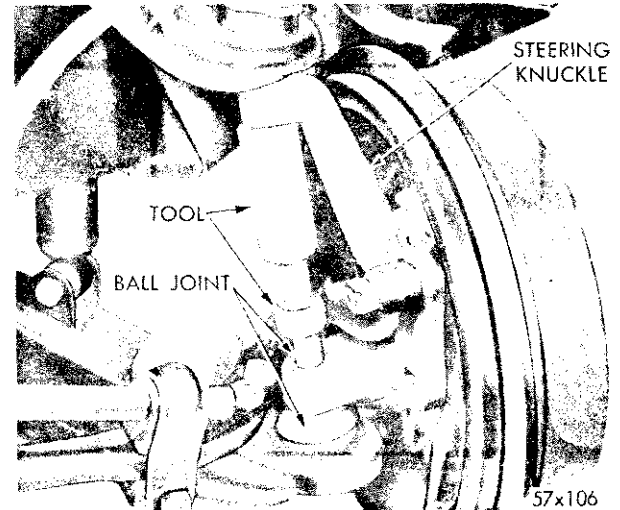
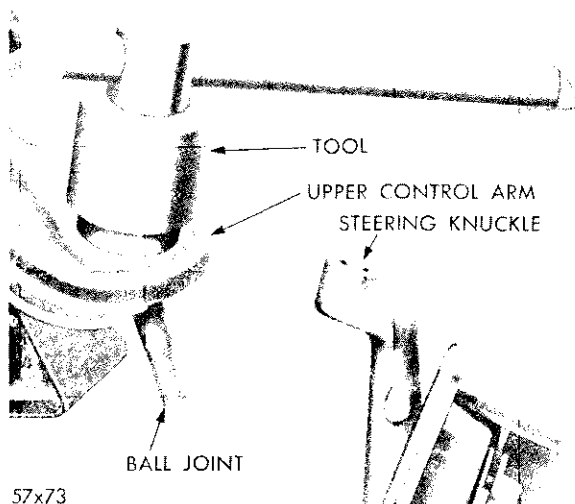
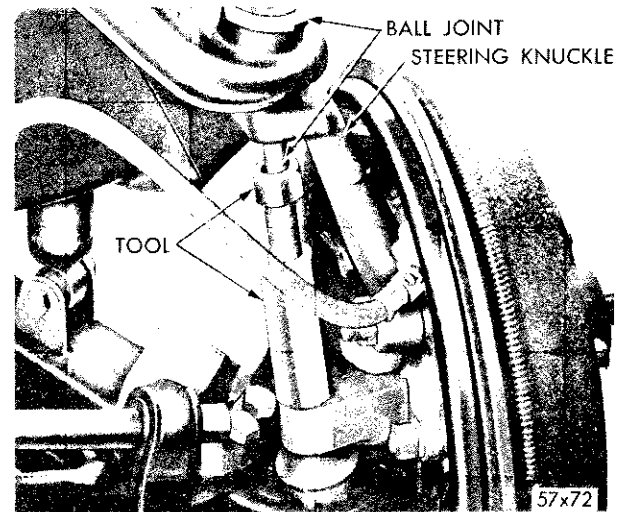
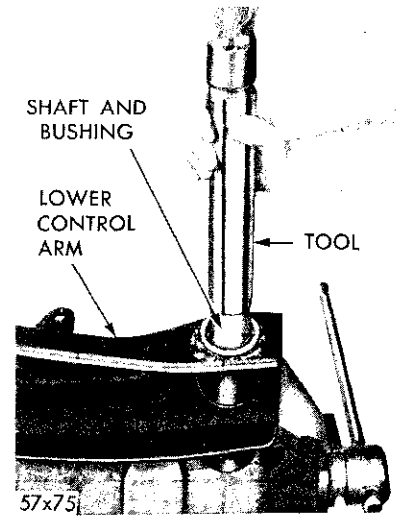

Fig. 9—Removing Lower Ball Joint from Knuckle
Fig. 10—Removing or Installing Ball Joint
Fig. 11—Removing Upper Ball Joint from Knuckle
Fig. 15—Installing Lower Control Arm Shaft and Bushing
(1) Place a jack under the lower control arm and raise the vehicle.
(2) Remove the wheel and tire assembly.
(3) Remove the upper and lower ball joint and nuts. Slide the Tool C-3564 over the upper stud until the tool rests on the steering knuckle. Turn the threaded portion of the tool locking it securely against the lower stud (Fig. 9). Spread the tool enough to place the lower stud under pressure, then strike the steering knuckle sharply with a hammer to loosen the stud. Do not attempt to force the stud out of the knuckle with the tool alone.
(4) Remove the tool, then disengage the ball joint from the knuckle. Remove the ball joint dust cover and seal.
(5) Using Tool C-3560 for Models PC-1, PS-1, PS-3, or C-3561 for Models PC-2, PC-3 and PY-1, as shown in Figure 10, unscrew the ball joint from the lower control arm and remove.
(1) Place a jack under the lower control arm as close to the wheel as possible. Raise the wheel off the floor.
(3) Remove the upper and lower ball joint stud nuts. Slide the Tool C-3564 down over the lower stud until the tool rests on the steering knuckle. Turn the threaded portion of the tool locking it securely against upper stud (Fig. 11). Spread the tool enough to place the upper stud under pressure, then strike the steering knuckle sharply with a hammer to loosen the stud. **Do not attempt to force the stud out of the knuckle with the tool alone.**
(4) Remove the tool, then disengage the ball joint from the knuckle. Remove the ball joint dust cover and grease seal.
(5) Remove the lubrication fitting from the top of the ball joint. Using Tool C-3560 for Models PC-1, PS-1 and PS-3, or C-3561 for Models PC-2, PC-3 and PY-1 (Fig. 10) unscrew the ball joint from the upper control arm.
(1) Place a jack under the Number 2 crossmember and raise the vehicle until both front wheels clear the floor.
(2) Remove the torsion bar, Paragraph 13.
(3) Remove the wheel and tire assembly.
(4) Disconnect the shock absorber at the lower control arm bracket then push the shock absorber up into the frame out of the way.
(5) Remove the nuts, lockwashers and bolts that attach the strut to the lower control arm.
(6) Remove the upper and lower ball joint stud nuts. Slide Tool C-3564 over the upper stud until the tool rests on the steering knuckle. Turn the threaded portion of the tool locking it securely against the lower stud (Fig. 9). Spread the tool enough to place the lower stud under pressure, then strike the steering knuckle sharply with a hammer to loosen the stud. **Do not attempt to force the stud out of the knuckle with the tool alone.**
(7) Remove the tool, and disengage the ball joint from knuckle.
(8) Remove the cotter pin, nut and washer that attaches the lower control arm shaft to the frame. With the washer and cotter pin removed, reinstall the nut until it is flush with the end of the shaft to protect the threads.
(9) Using a hammer and brass drift, loosen the shaft (a tapered fit in front crossmember), then remove the nut. Slide the lower control arm and shaft out from the rear of the crossmember.
(1) Position the new bushing over the shaft (flange end first) and seat on the shoulder of the shaft. Install the washer and nut, then tighten to 100 foot-pounds torque. (Hold shaft securely in vise with protector jaws.) Install the cotter pin.
(2) Press the lower control arm shaft and bushing into the lower control arm with an arbor press, or drive into place using Tool C-3556 for Models PC-1, PS-1 and PS-3, or C-3557 for Models PC-2, PC-3 and PY-1, and a hammer (Fig. 15).
(3) Press until the flanged position of the bushing is seated, past locking groove.
(4) Thread the ball joint into the arm using Tool C-3560 for Models PC-1, PS-1 and PS-3, or C-3561 for Models PC-2, PC-3 and PY-1 (Fig. 10).
(5) Tighten to a minimum of 125 foot-pounds torque until the ball joint is seated (the ball joint will cut threads into the arm during tightening operation).
(1) Place a jack under the lower control arm as close to the wheel as possible. Raise the jack until the front wheel clears the floor.
(3) Remove the upper and lower ball joint stud nuts. Slide the Tool C-3564 down over the lower stud until the tool rests on the steering knuckle. Turn the threaded portion of the tool locking it securely against the upper stud (Fig. 11). Spread the tool enough to place the upper stud under pressure, then strike the knuckle sharply with a hammer to loosen the stud. Do not attempt to force the stud out of the knuckle with the tool alone.
(4) Remove the tool, then disengage the ball joint from the knuckle.
(5) Remove the nuts, lockwashers and bolts attaching the upper control arm bushings to the front and rear support. Lift the upper control arm up and away from the support.
PC-2, PC-3 and PY-1 (Fig. 10).
(3) Thread the ball joint into the arm, using Tool C-3560 for Models PC-1, PS-1 and PS-3, or C-3561 for Models PC-2, PC-3 and PY-1 (Fig. 10).
(4) Tighten until seated (100 to 125 foot-pounds torque minimum). The ball joint will cut threads into the arm during the tightening operation. After the bushings have been pressed in place, install the upper control arm on the vehicle.